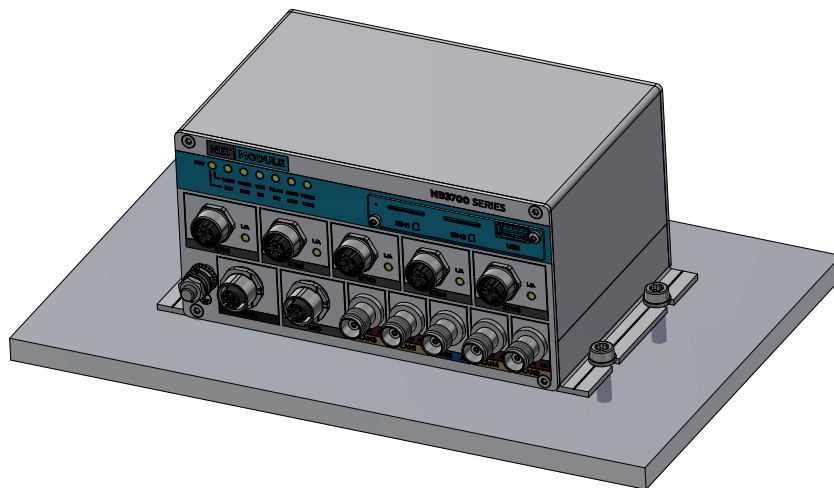

Figure 2
3.2 Tighten the screws | Drive type: Torx T30 | Torque: 7 Nm (Figure 2)